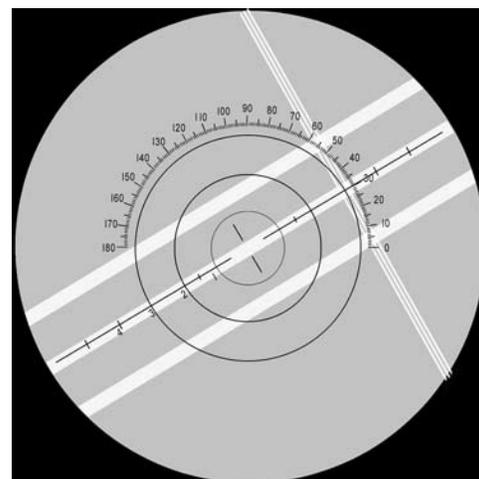

Figure IU-07 3 Diopters of Prism
4. Rotate the Prism Scale until the line of the scale passes through the center of the target. Refer to Figure IU-07.
**Note:** Figure IU-07 indicates a prism power of 3 diopters at an axis of 35°.